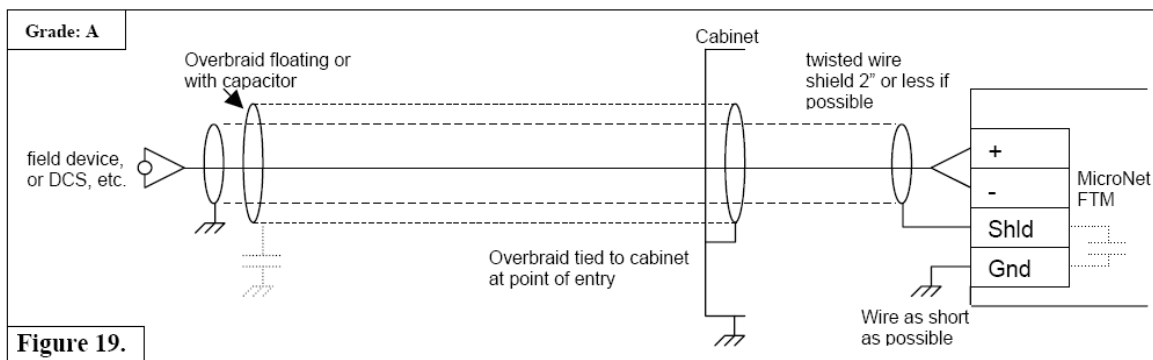

Figure 11-3. Shield Termination Diagram 2
- Refer to Figures 11-3 and Appendix E for Speed Sensor wiring connections on the FTMs.